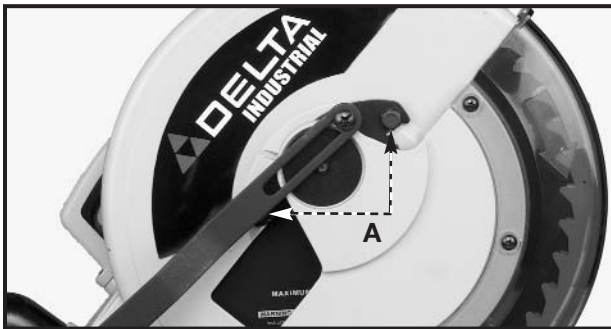

Fig. 42
2. Use the supplied wrench to loosen screws (A) Fig. 42. **NOTE:** One screw is located under the arbor cover arm.